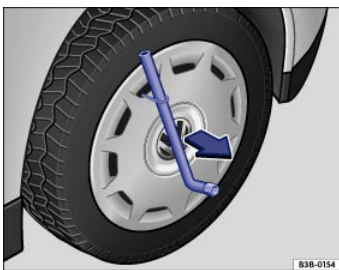

Fig. 225 Pulling the wheel cover off.
- Slide the lug wrench through the clip ⇒ *Fig. 225* and pull the wheel cover off in the direction of the arrow.